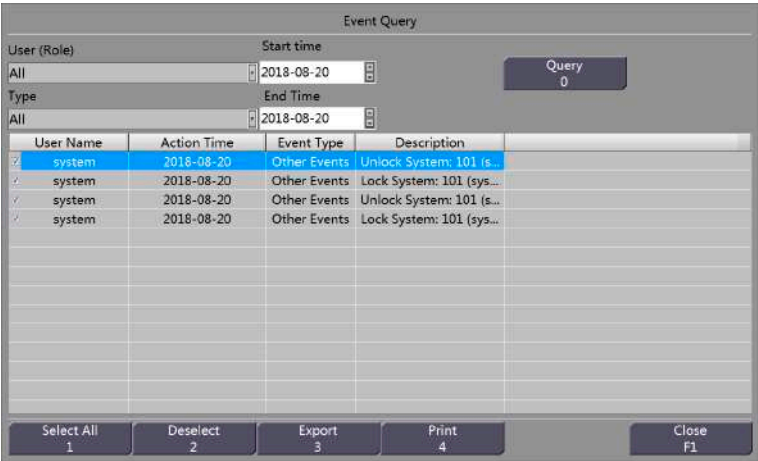

Figure 15-13 Result of Event Query
Step 2 Enter query conditions on the interface. Type includes user management, import, export, print, and others. After setting query conditions, click “Query”, as shown in Figure 15-13.